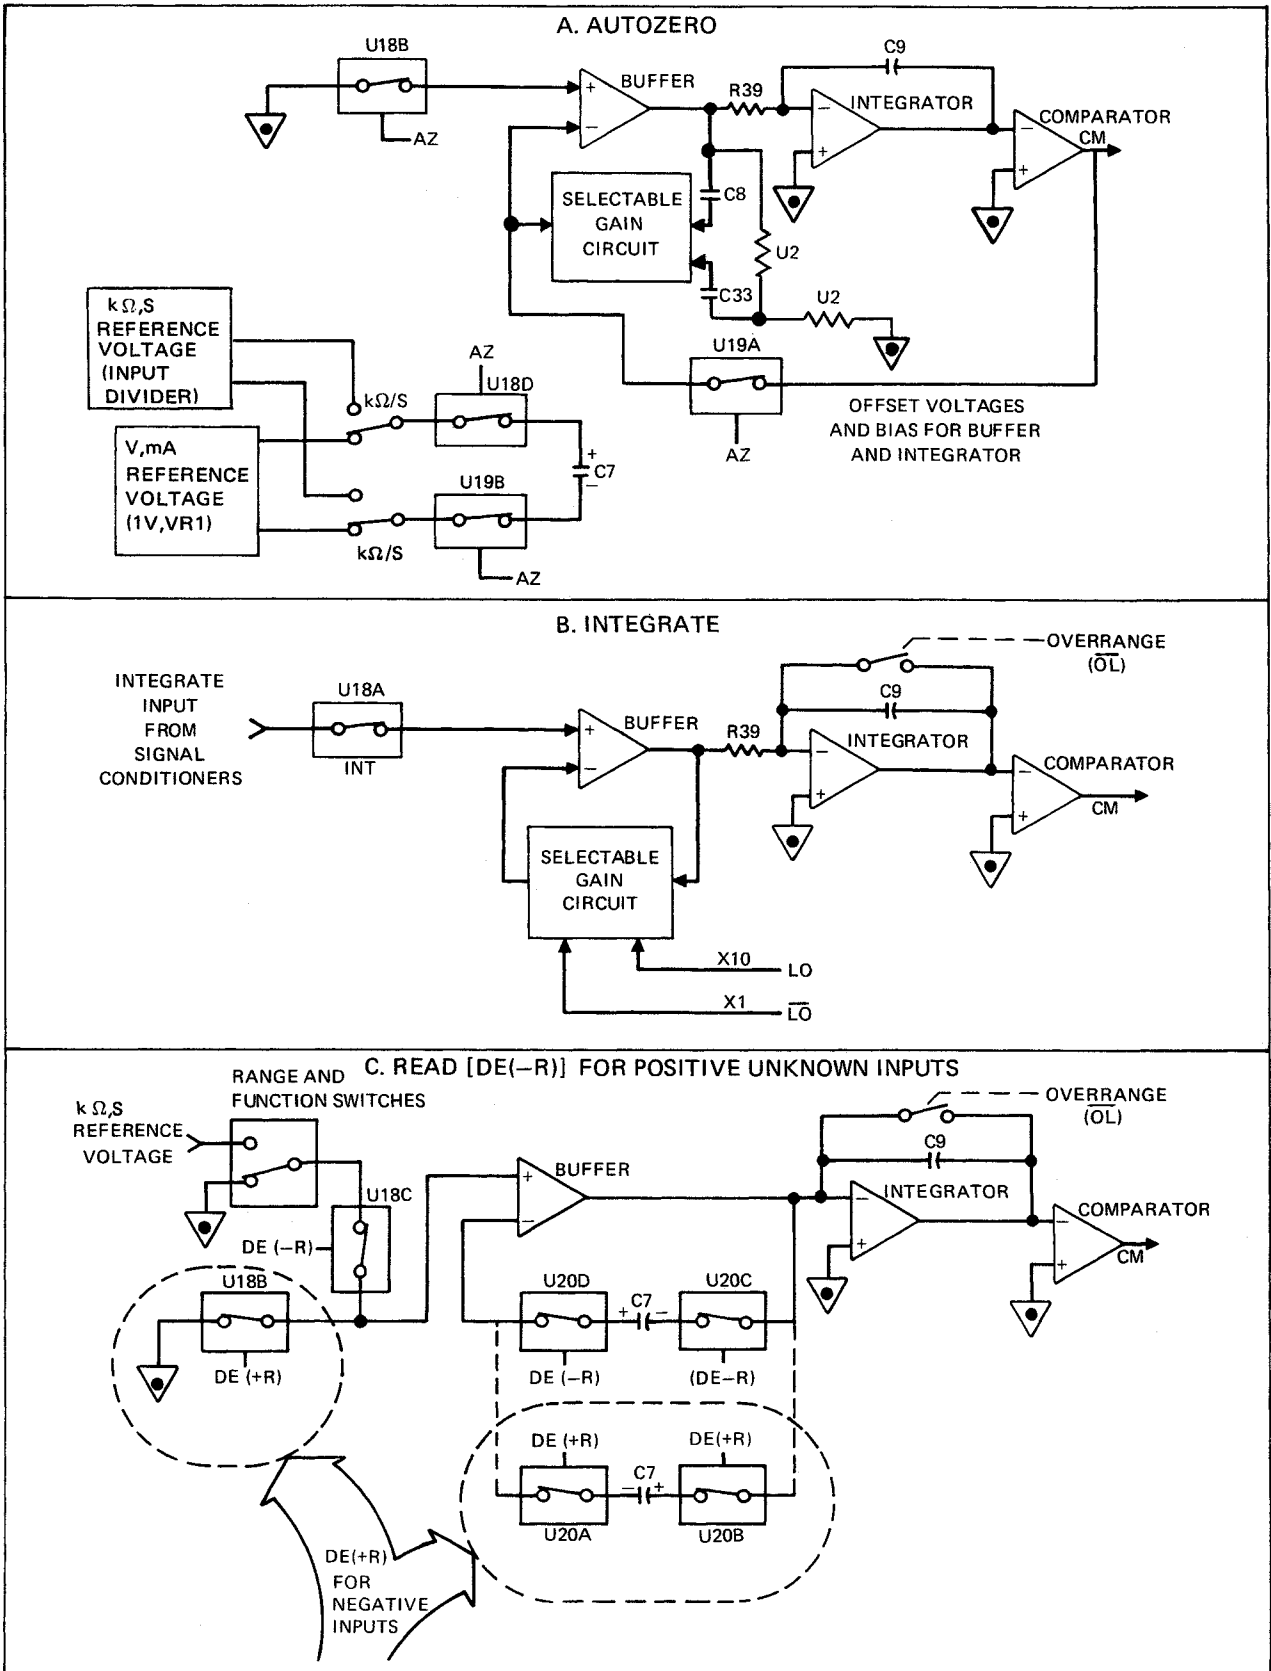
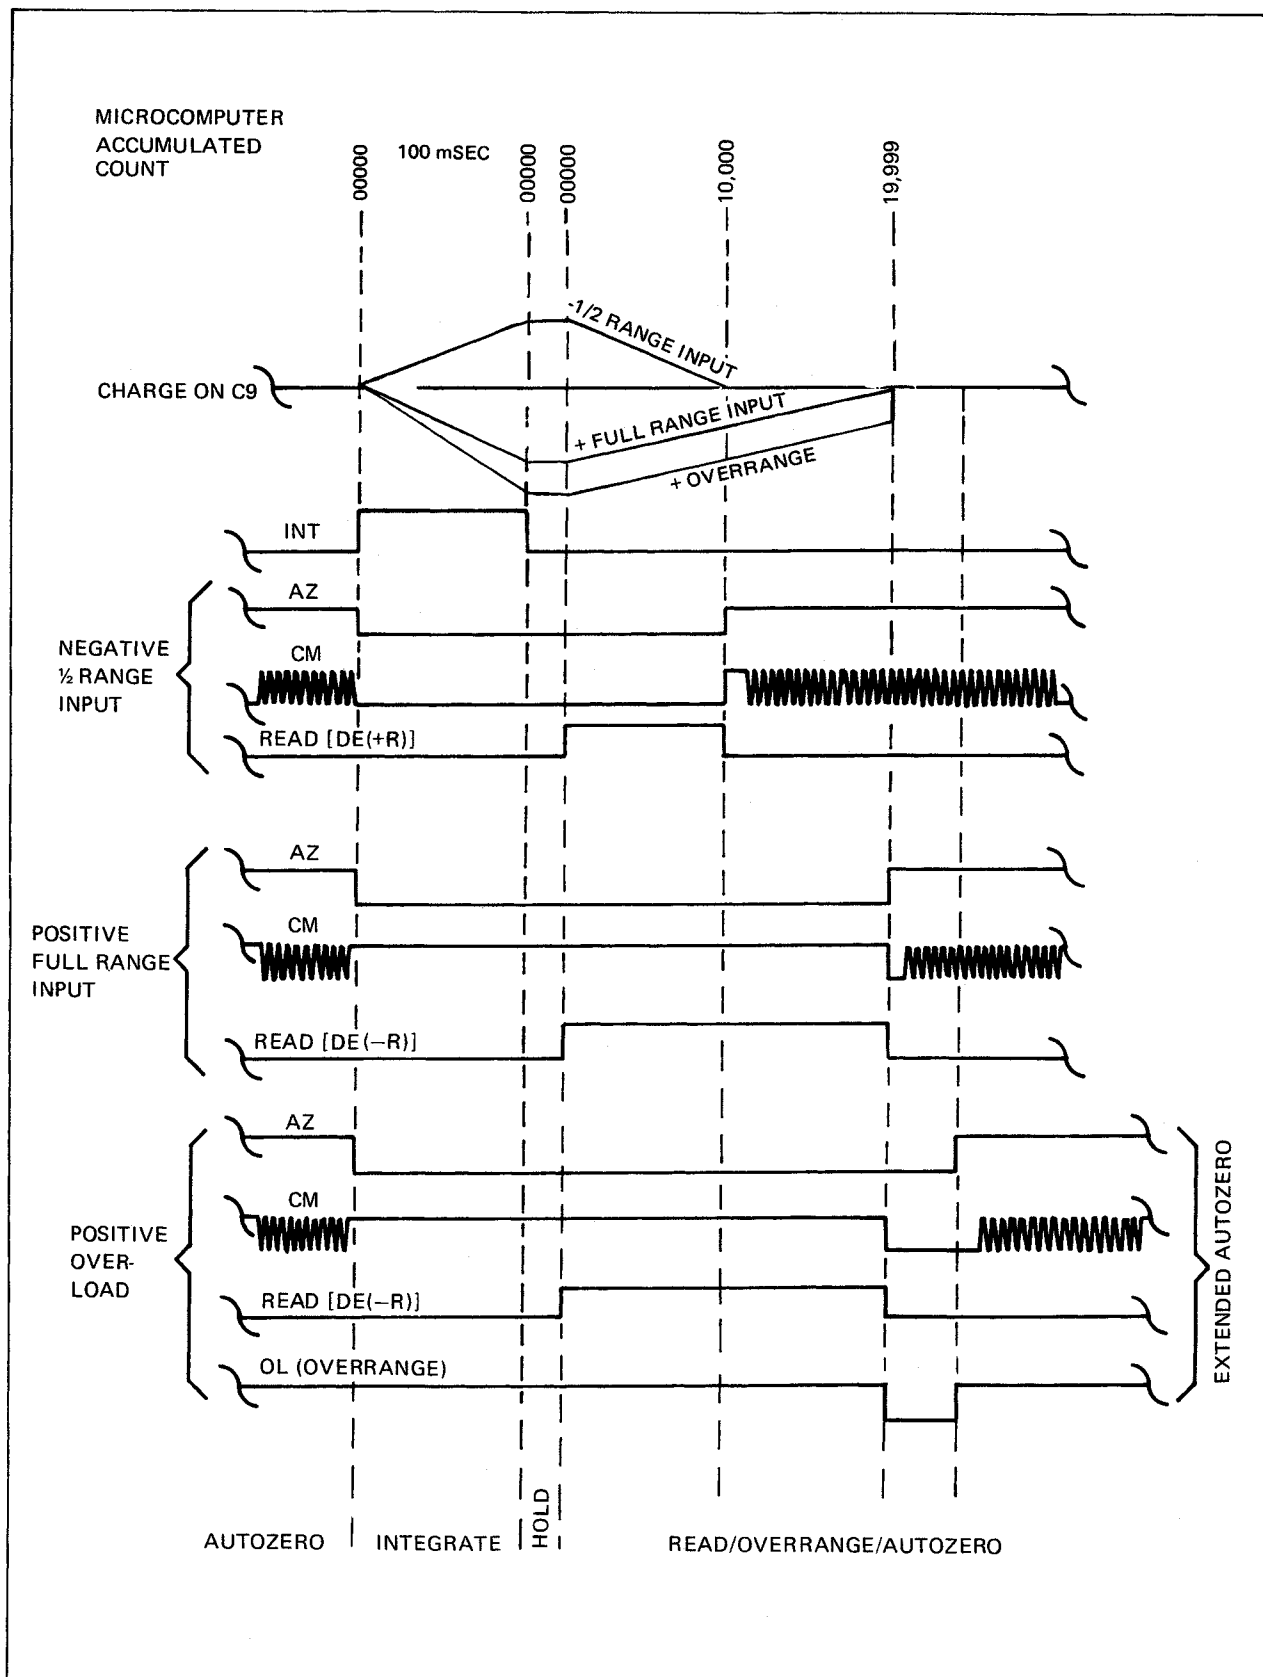

Figure 3-2. A/D Converter
Figure 3-3. A/D Converter Waveforms
3-9. The microcomputer controls the a/d converter via CMOS switches. Figure 3-2 shows the simplified circuits formed during the major periods of a/d conversion cycles. Figure 3-3 is a timing diagram that shows the a/d converter cycle resulting from three different input signals. Assume in reading the following paragraphs that the DC V function and the 2V range are selected, and the DMM is nearing the end of the Autozero period in its conversion cycle.
3-10. As Part A in Figure 3-2 shows, the CMOS switches U18B and U19A are closed, providing voltage levels that allow C8 and C33 to store the offset voltages of the buffer, integrator, and comparator. CMOS switches U18D and U19B connect the flying capacitor, C7, to a reference voltage. Since the V function is selected, C7 is charged by the a/d converter reference voltage source. At the end of the Autozero period, C7 is fully charged, C8 and C33 are charged up to the offset voltages, and the comparator output (CM) is near a threshold level.
3-11. Assume that an input of -1.0000V dc is present at the DMM input (first set of waveforms in Figure 3-3). The microcomputer starts the Integrate command (INT) at the same time that it ends the AZ command. The a/d converter circuit is switched to the configuration shown in Figure 3-2, Part B. CMOS switch U18A connects the output of the signal conditioners to the input terminal of the buffer. For the 2V range, the microcomputer selects the X1 gain in the buffer, and the input from the signal conditioner is applied to the buffer and integrator in series. The integrator begins to charge C9. The instant that the charge on C9 shifts from its initial level, the comparator toggles, and its Compare output (CM) goes to a steady level. Since the unknown input to the DMM is
3-13. Since CM is negative, the microcomputer initiates the Read period with the DE (+R) (de-integrate plus reference) command (Part C of Figure 3-2), CMOS switch U18B connects the buffer input to COMMON, and CMOS switches U20A and U20B connect C7 in the buffer feedback loop so that the integrator input is a known level (1V) of the opposite polarity from the input signal. The integrate capacitor, C9, begins to discharge, and the microcomputer starts to count from 00000. The count accumulates until C9 discharges to its initial level. The instant C9 reaches its initial level, the comparator toggles CM positive, stopping the count in the microcomputer. The count in this case will be 10,000. This count (with the appropriate decimal point) is numerically the same as the -1.0000V dc input to the DMM.
3-15. The bottom set of waveforms in Figure 3-3 shows the timing that results from a positive overrange input to the DMM. If the count in the microcomputer reaches 20,000 before CM toggles, the microcomputer detects this as an overrange condition and issues the overload (\overline{OL}) command for 5 millisecond. The \overline{OL} signal shorts C9, dumping the remaining charge. The following Autozero period is doubled to 200 millisecond. The polarity of the overrange input signal is retained and displayed.